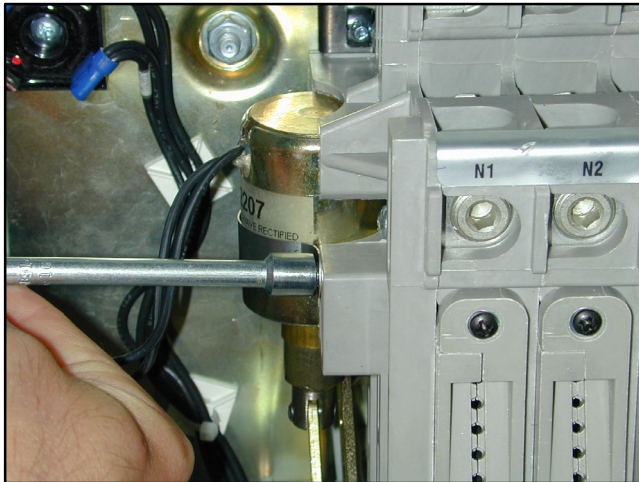

Figure 7-66 Coil Securing Strap
13. Remove the front bolt of the coil securing the strap. See Figure 7-66.
21. Tighten the bolts for the coil holding strap. See Figure 7-66.